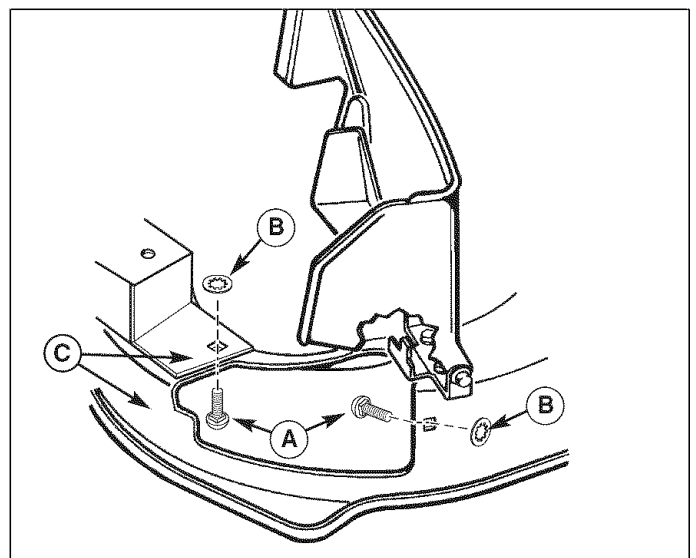

Figure 3. Install Carriage Bolts
2. Secure the 5/16-18 x 3/4 carriage bolts (Figure 3) onto bracket and mower deck housing (C) using 5/16 push nuts (B).